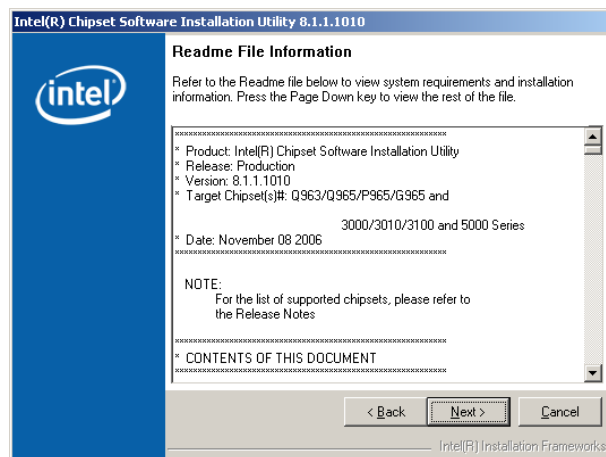

Figure 7-5: Chipset Driver Readme File Information
Step 13: The Readme file in **Figure 7-5** appears.
Step 14: Click **NEXT** in **Figure 7-5** to start the driver installation.